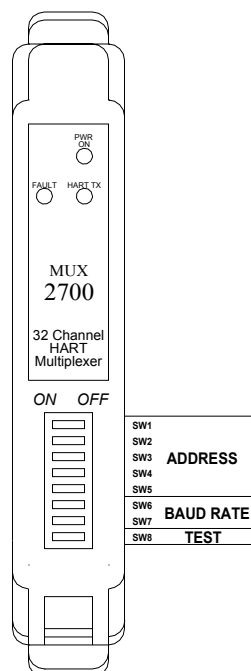

Figure 4
3.1.1 2700 Settings (See Figure 4)
Further information is given on the front and side labels (Figure 4). In particular, the side label gives the correct setting of every DIP switch combination.
3.4 Indicators (See Figure 4)